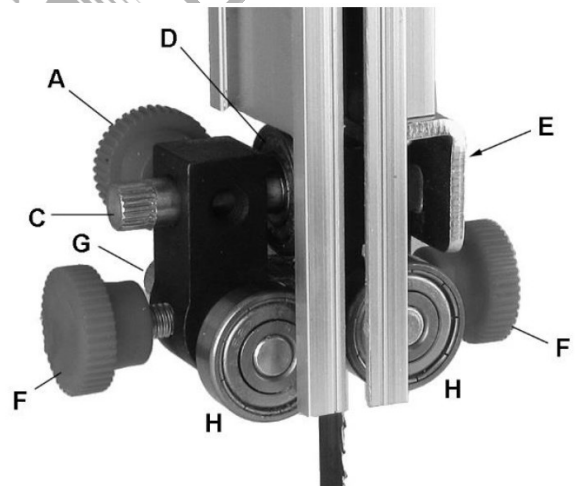

FIG. 25
There are two blade guide assemblies – an upper assembly (Figure 25) and lower assembly (Figure 26).
Refer to Figures 25 and 26:
**Note:** Blade must already be tensioned and tracking properly. Disconnect machine from power source. For the upper thrust bearing, loosen thumb-screw (A, Figure 25). For the lower blade guide, loosen setscrew (A, Figure 26) with the 3mm hex wrench provided. Slide the adjustment shaft (C) so the blade is positioned in the middle of the thrust bearing (D).